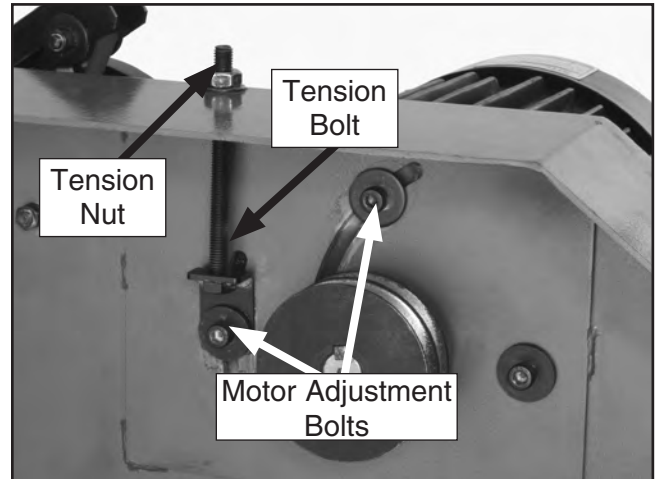

Figure 59. Motor mount bolts and tension bolt.
3. Loosen motor adjustment bolts shown in **Figure 59**.
3. Loosen motor adjustment bolts and tension nut shown in **Figure 59**, then turn tension bolt counterclockwise.